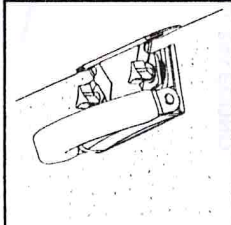

FIG. 1
- Vinyl-coated ratchet handle (model No. 245) can fold down for trimming under toe spaces. See fig. 1 and 2.